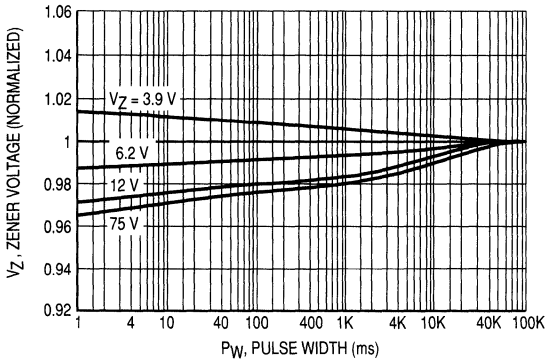

Figure 1. DO-35 (Glass) 500 mW Device
Normalized  $V_Z$  versus  $I_{ZT}$  pulse width curves are shown in Figure 1 through 6. The type of heatsink used is shown or specified for each device package type. Obviously, it is beyond the scope of this paper to show curves for every voltage rating available for each package type. The object was to have a representative showing of voltages including when available, one diode with a negative temperature coefficient (TC).
FIGURES 1 thru 8 — Conditions: Single Pulse,  $T_A = 25^\circ\text{C}$ ,  $V_Z I_{ZT} = 1/4 P_D$  (Max) Each device normalized to  $V_Z$  at TE.